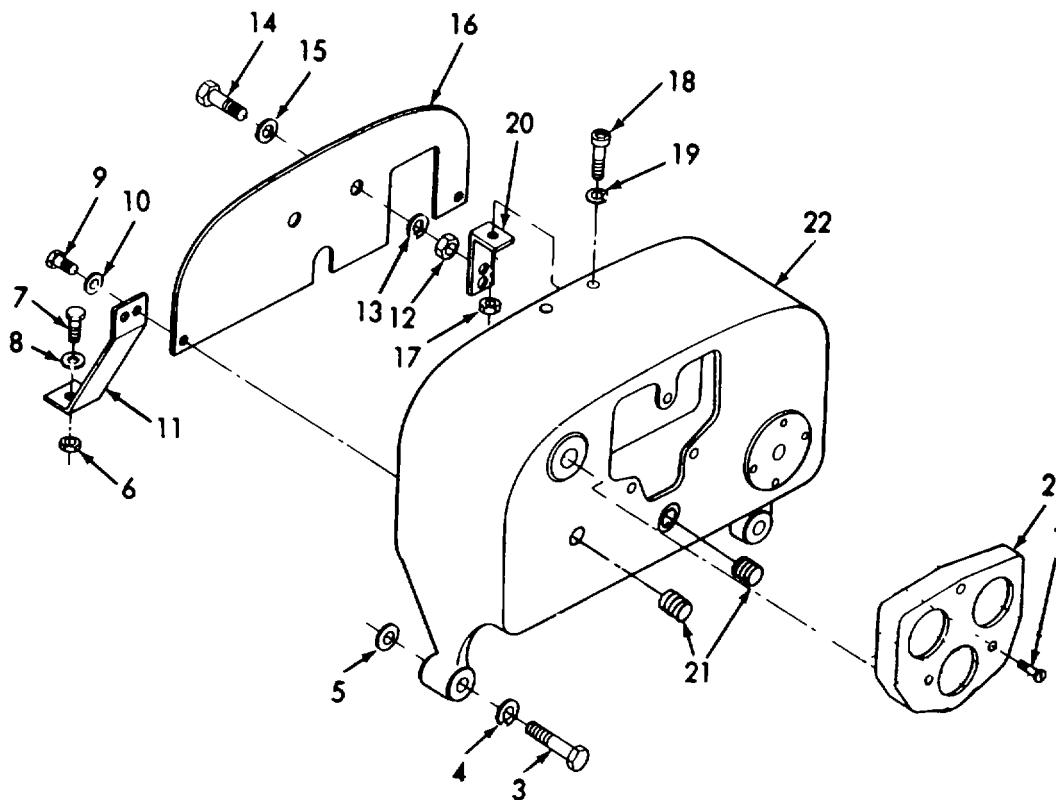

Figure 3-99. Instrument Panel, Removal/Installation.
a. Removal. (Refer to figure 3-99).
- (1) Remove three screws (1) and panel cluster (2).
- (2) Remove two screws (3), two lockwashers (4), and two spacers (5).
- (3) Remove nut (6), screw (7), lockwasher (8), screw (9), lockwasher (10), and bracket (11).
- (4) Remove nut (12), lockwasher (13), screw (14), flat washer (15), and cover (16).
- (5) Remove nut (17), screw (18), lockwasher (19), and bracket (20).
- (6) Remove three plugs (21) and panel (22).
- (1) Refer to figure 3-99 and install three plugs (21) into panel (22).
- (2) Install bracket (20) and secure with lockwasher (19), screw (18), and nut (17).
- (3) Install cover (16) and secure with flat washer (15), screw (14), lockwasher (13), and nut (12).
- (4) Install bracket (11) and secure with lockwasher (10) and screw (9).
- (5) Position panel (22) on engine and secure with lockwasher (8), screw (7), nut (6), two spacers (5), two lockwashers (4), and two screws (3).
- (6) Position panel cluster (2) on panel (22) and secure with three screws (1).
- (7) Install cold weather starting aid control per paragraph 3-23, TM 55-1930-208-10.
- (8) Install oil pressure gage per paragraph 3-22, TM 55-1930-208-10.
- (9) Install water temperature gage per paragraph 3-21, TM 55-1930-208-10.
- (10) Install throttle control per paragraph 3-16.